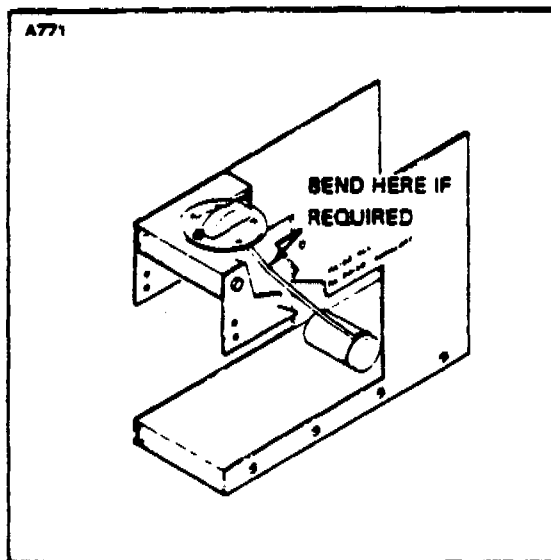

FIGURE 8-9. CHECKING SENDER UNIT
2. Secure the sender in the appropriate position on the fabricated jig as shown in Figure 8-9. (The jig may be fabricated from dimensions given in Figure 8-19.)
3. With the float arm against the bottom stop, the float should be just touching the base of the jig. If the float arm is not touching the base of the jig or the bottom stop, adjust the float by bending the arm at a position shown in Figure 8-9.